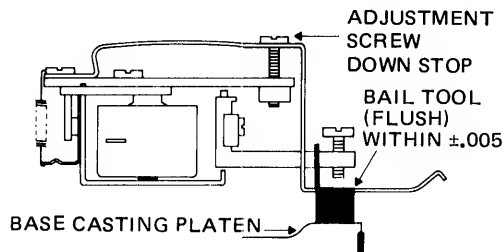

FIGURE 6 HEAD LOAD ACTUATOR DOWN STOP ADJUSTMENT
- d. Adjust down stop so as the top of Head Load Bail is flush with top of tool within $\pm .005''$ at track 76. Reference Figure 6.
- h. If item 'g' is ok, adjust down stop screw (Figure 6) CW until timing is met. Note, not to exceed $\frac{1}{4}$ turn.